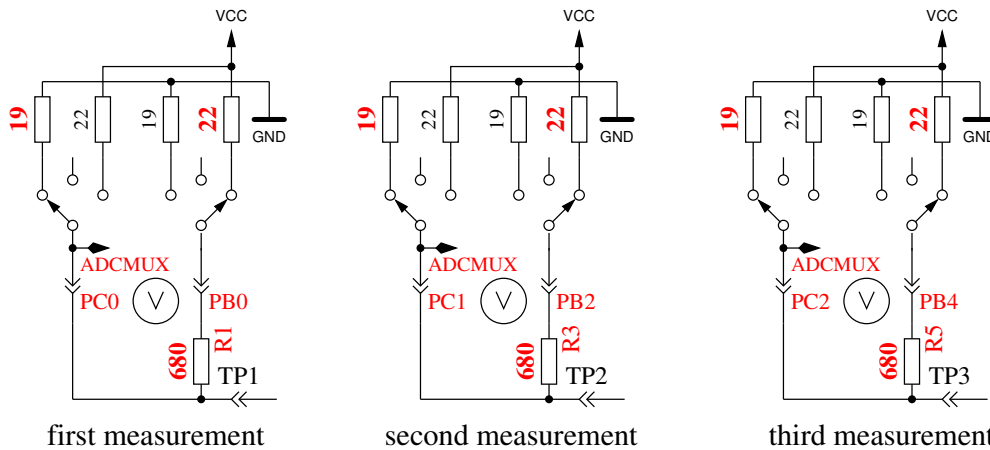

Figure 5.43: Measurement of internal resistance of Port C switched to GND
5. **This step tests the capability of GND (-) connected  $470k\Omega$  resistors (H) to pull the test pins to GND.** Row 1 shows the text “RH-”. Row 2 should display zero for all three pins.
6. **This step tests the capability of VCC (+) connected  $470k\Omega$  resistors (H) to pull the test pins to VCC (+).** Row 1 shows the text “RH+”. The results are shown als difference to VCC and should be near zero. Great differences from the best value for test 5 and 6 are errors such as isolation problem, flux material or damaged port.
7. **Measuring of internal resistance of pin output switched to the GND signal.** This test and the follwing tests will only be done, if the option AUTO\_CAL is selected. The internal resistance of the port C outputs switched to GND (-) are measured with the current of to VCC (+) switched  $680\Omega$  resistors, see Figure 5.43. Only the three pins of the ADC port are measured, the resistor port B (PB0,PB2 and PB4) can not be measured without hardware modification. Is is assumed that the port resistance of the different ports are nearly identical. The resistor value will be shown in the next test.